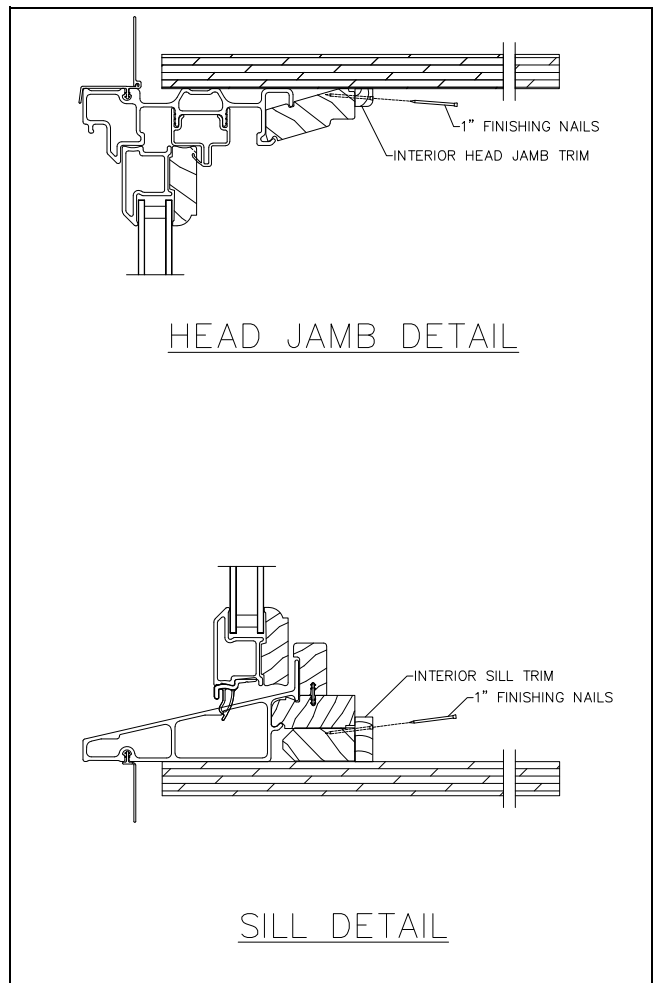

Figure 17
2. Apply head board horizontal trim and seat board horizontal trim where they meet the frames. Measure between jamb and or mull trim. Cut to length and fasten trim using finish nails spaced 6"- 8" (152-203) apart, set with nail set. Repeat on each unit. See Figure 17.